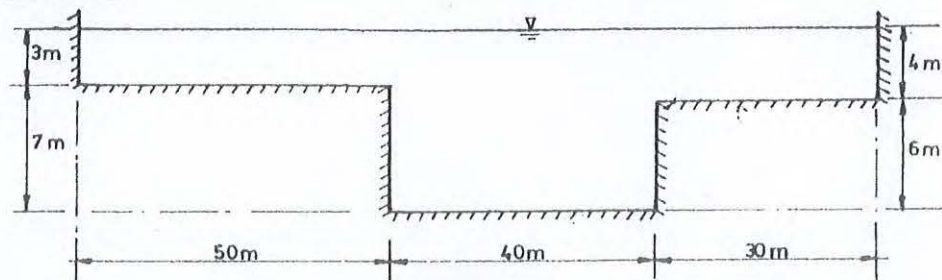

Figure 3
9. A channel consists of a main section and two side sections as shown in **Figure 3**. Compute the total discharge, the mean velocity of flow, and Manning's n for the entire section when $n = 0.025$ for the main channel, $n = 0.045$ for the side channels and $S_o = 0.0002$. Also, compute the numerical values of velocity distribution coefficients for the entire section assuming that $\alpha = \beta = 1.00$ for the main and the side sections. [14]